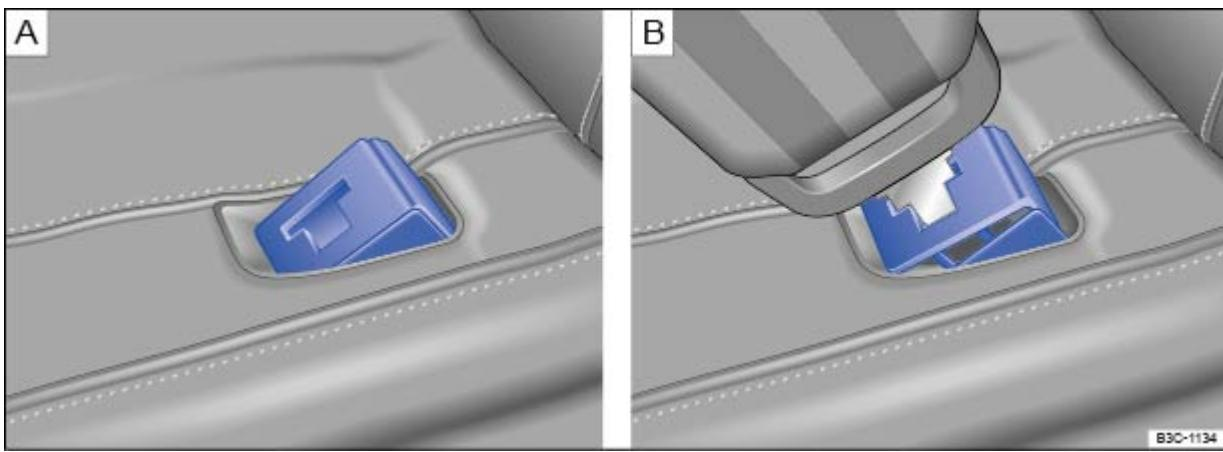

Fig. 38 Protective cover for the safety belt buckle. Removal of protective cover with the safety belt tongue.
- Insert the safety belt tongue into the slit in the protective cover and press the buckle release button below ⇒ Fig. 38 **B**. The protective cover is ejected.